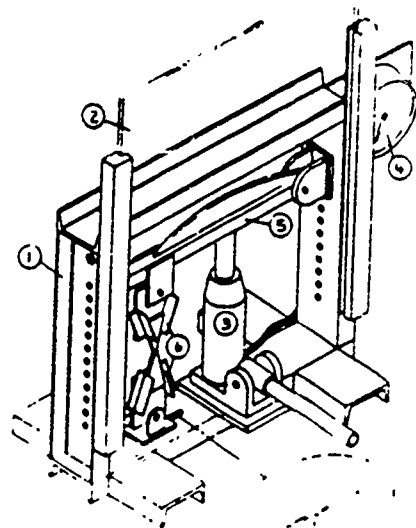

FIGURE 2
2. Assemble two sheetmetal joints. (see Fig.2)
The material tester shown in Figure 2 has six major components: (a) a frame of welded 4-in. channel, (b) a safety shield, (c) an 8-ton hydraulic jack, (d) a 5,000 psi pressure gauge (with indicator needle) and hose connection, (e) a pivot arm of 1 in. bar stock with  $\frac{1}{4}$  in. rib, and (f) various specimen holding and/or interface accessories for specific individual tests (not shown). The steel channel was welded together with all flanges pointing outward. Holes were drilled in both side rails, and a slot was cut in the bottom channel for T-bolts, allowing for the attachment of the individual test specimens, interface accessories to the material tester frame, or both. The addition of the four feet gives the device the necessary support to remain upright during testing procedures. When